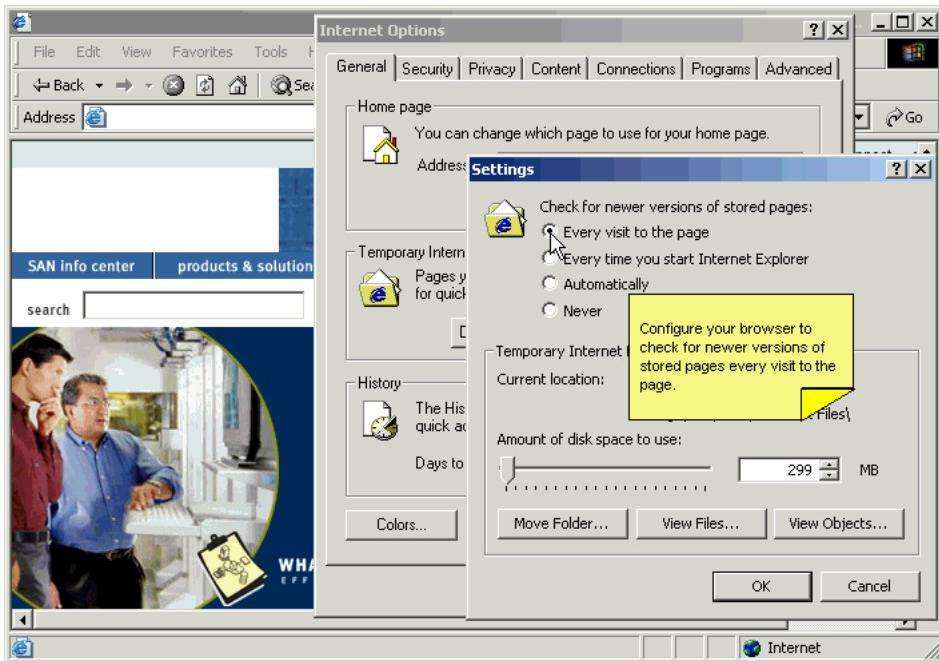

Figure 1 Configuring Internet Explorer
| Medium blue text: Figure 1 | Cross-reference links and e-mail addresses |
3. Click **Every visit to the page** under Check for newer versions of stored pages, as shown in Figure 1.